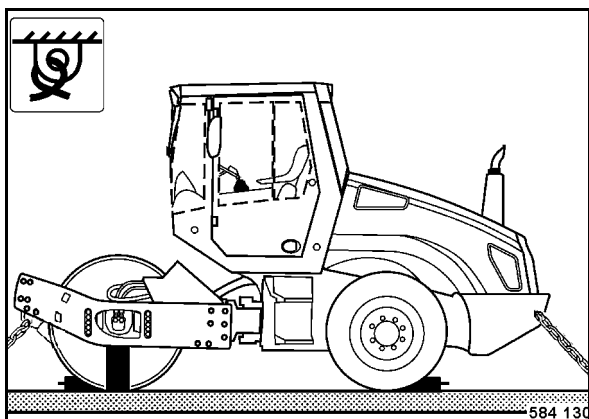

Fig. 117
- Lash the machine on the transport vehicle (Fig. 117), use the four lashing eyes on front and rear frame for this purpose.